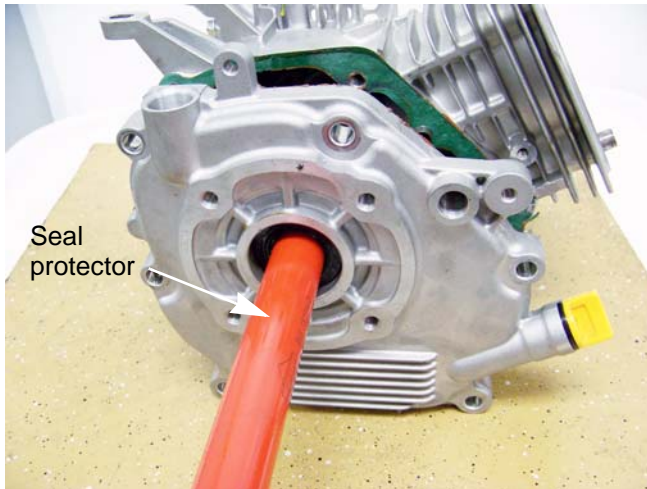

Figure 10.23
9. Using a seal protector, slide the crankcase cover on to the crank shaft. See Figure 10.23.